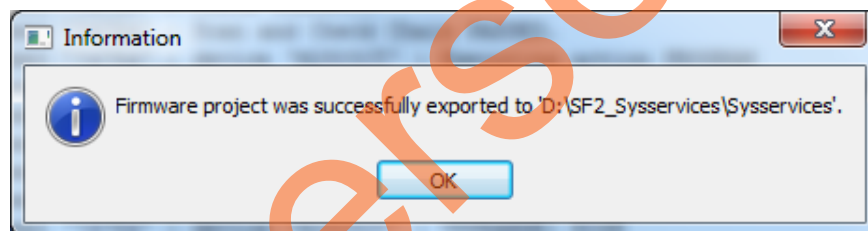

Figure 18 • Firmware Successfully Exported Message
4. Click **OK**. The successful firmware generation window is displayed as shown in Figure 18.